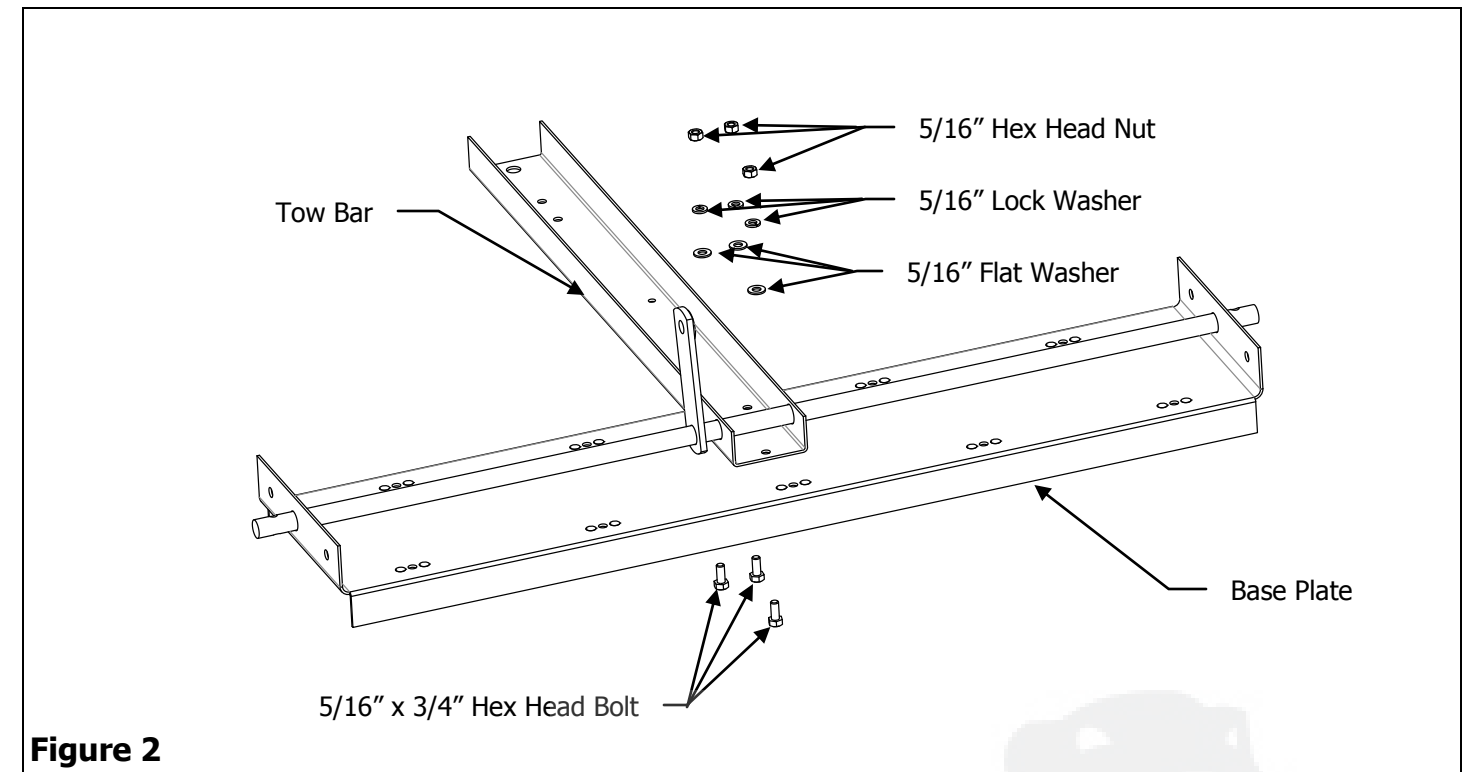

Figure 2
2. Align the three rear holes in the Tow Bar with the corresponding hole in the Base Plate. Insert a 5/16" x 3/4" Hex Head Bolt into one of the holes in the Base Plate then through the corresponding hole in the Tow Bar. Insert a 5/16" Flat Washer onto the bolt followed by a 5/16" Lock Washer, then secure with a 5/16" Hex Head Nut. Repeat process on the remaining two holes. See Figure 2.